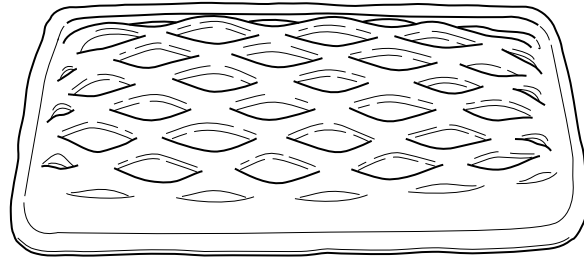

Fig. 4
Fig. 4 shows a frozen ready to cook meal of salmon in flaky/rough puff pastry.
(a) Give **four** justified design requirements for the ready to cook meal of the type shown in Fig. 4.
- (ii) Describe in detail how to manufacture flaky/rough puff pastry for the ready to cook meal shown in Fig. 4.